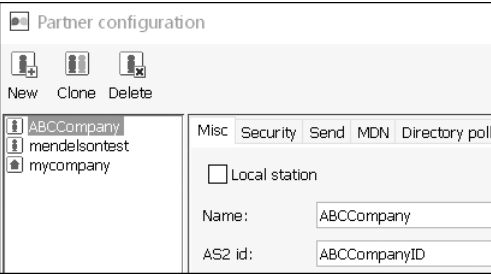

Figure 7.33 Partner Configuration for the SAP Cloud Platform Integration Tenant in Mendelson
- The defined **AS2 id** for the AS2 partner created for the SAP Cloud Platform Integration tenant (Figure 7.33) needs to match the **Own AS2 ID** in the **AS2** sender channel (refer to Figure 7.29).